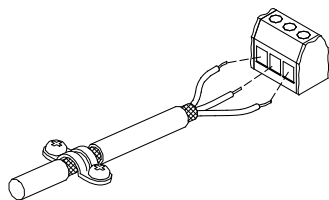

Fig. 9 Stripped cable with screen and wire connections
- Connect the screens of the cables to frame at both ends with good connection. The screens must be as close as possible to the terminals. See fig. 9.